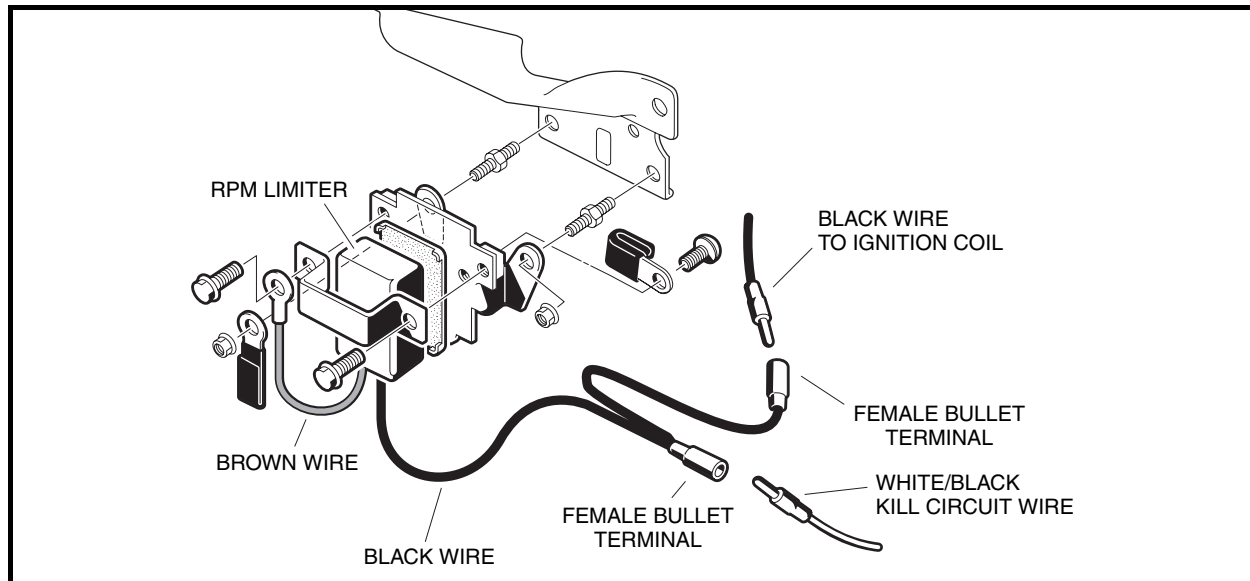
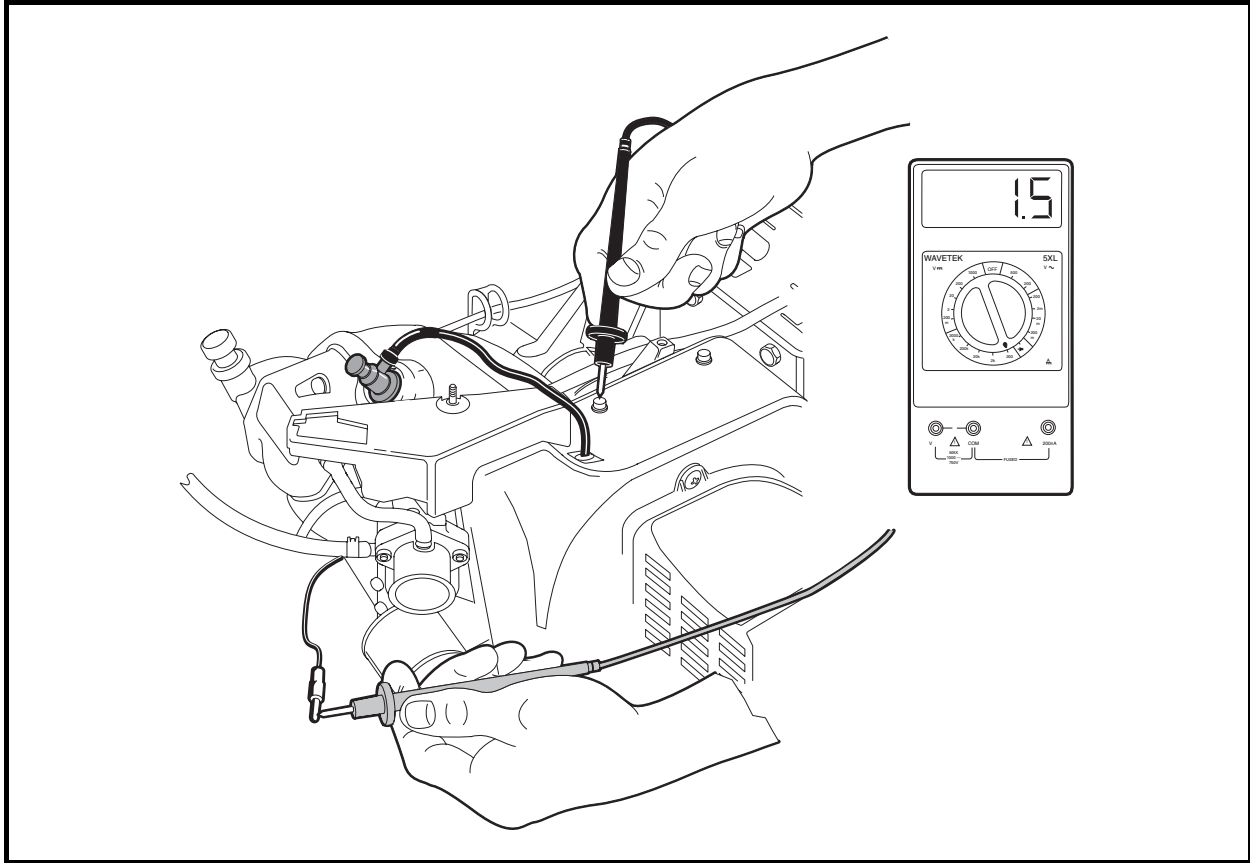

Figure 11-41 RPM Limiter
Figure 11-42 Primary Coil Resistance – In Vehicle Test
3. Disconnect both of the bullet terminals (**Figure 11-41, Page 11-34**).
- 3.1. Disconnect both of the bullet terminals at the RPM limiter (**Figure 11-41, Page 11-34**). Place the red (+) probe of the meter on the male bullet terminal of the wire connecting to the ignition coil under the fan housing, and place the black (-) probe on a clean unpainted surface of the engine or frame (**Figure 11-42, Page 11-35**).